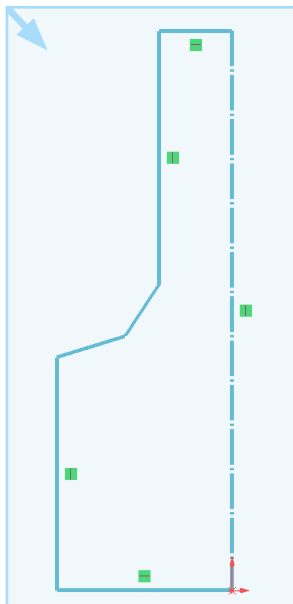

Fig. 3
Step 5. Drag a selection to select **all geometry**, **Fig. 3**.
Step 7. Click **Smart Dimension**  (S) on the Sketch toolbar.